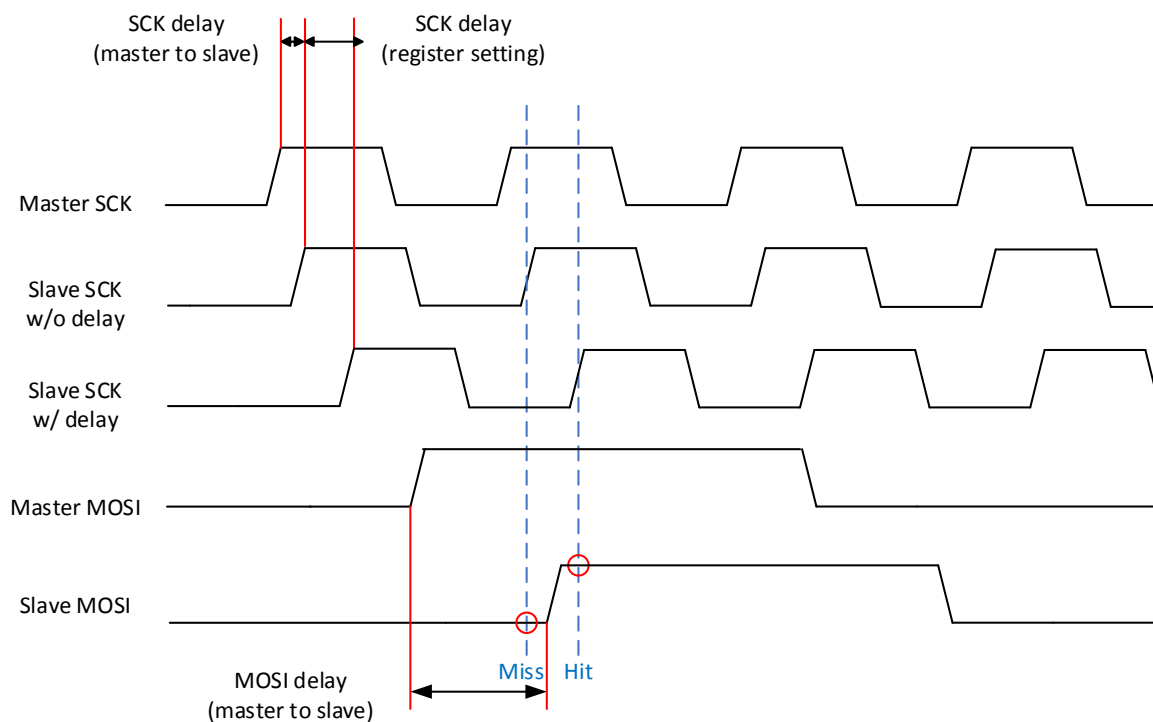

Figure 2.5-6. SPI master controller SCK and data delay
- If the timing skew between SCK and data is too big, the received data on slave can be corrupted. This issue can be solved by adjusting the delay on SCK and data path (registers **SPIM_SEL_ADDR** and **SPIM_SEL_WDATA**), as shown in Figure 2.5-6.